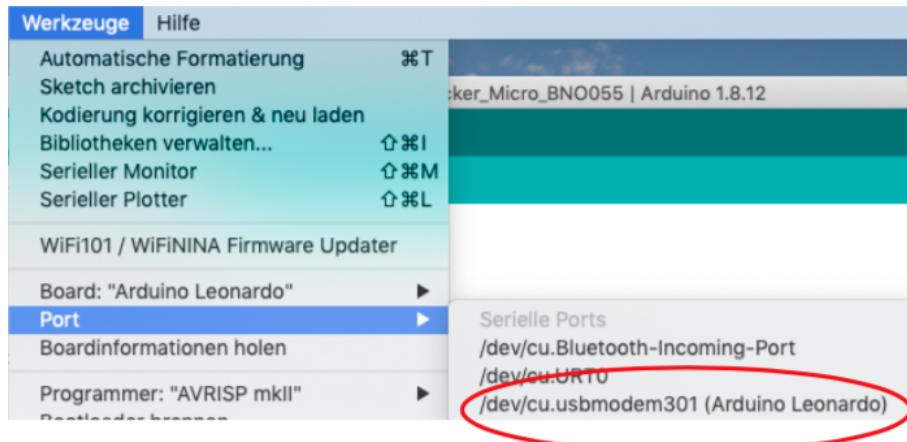

Figure 20: Port “(Arduino Leonardo)”
Step 7.4: Choose the belonging Port “(Arduino Leonardo)” (Figure 20) in the tools section.